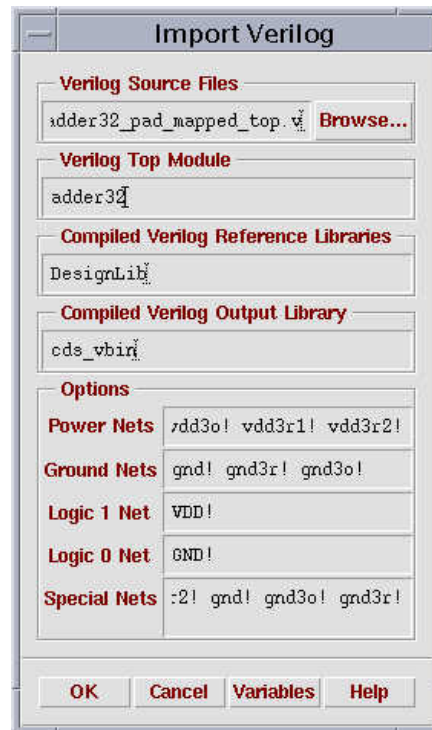

Figure 7-10 Import design.
1. To load design, click on **File→Import→Verilog...** Fill the first four fields of **ImportVerilog** form as figure 7-10, and then click on **Ok**.